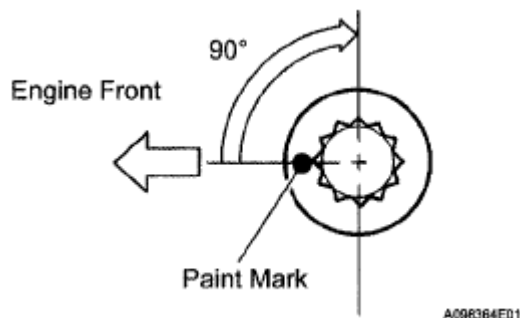

Fig. 106: Tightening Cylinder Head Bolts An Additional 90°
- d. Further tighten the cylinder head bolts by 90° as shown in **Fig. 106**.